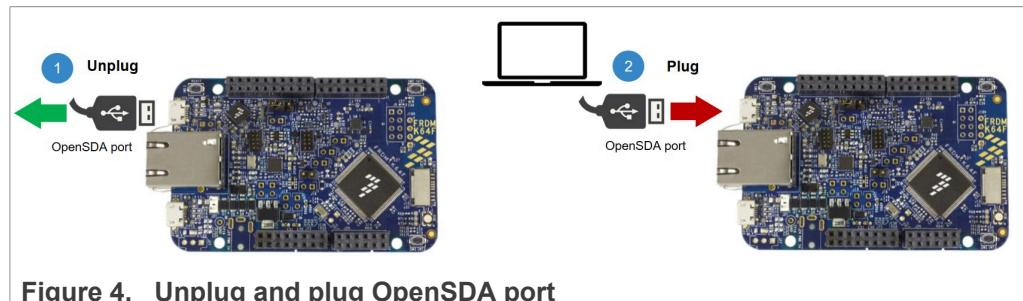

Figure 4. Unplug and plug OpenSDA port
1. Unplug and plug again the USB cable to the openSDA USB port as shown in Figure 4: